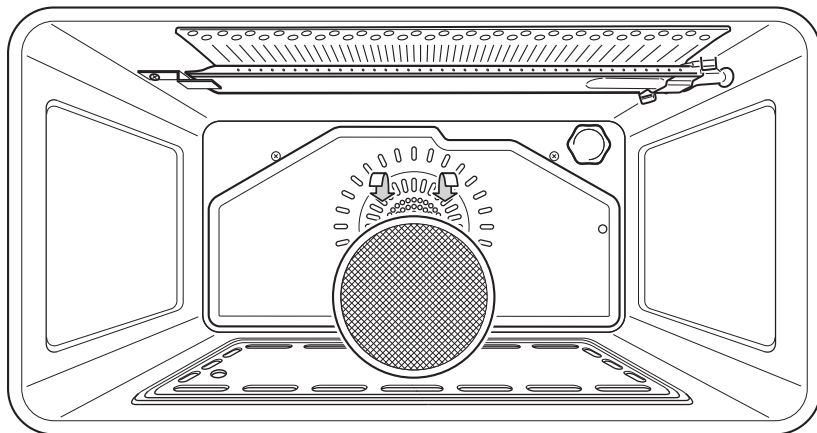

Fig. 4.7
- A special screen is provided at the back of the oven to catch grease particles, mainly when meat is being roasted (fig. 4.7).
- Slide in the grease filter on the back of the oven as in fig. 4.7.